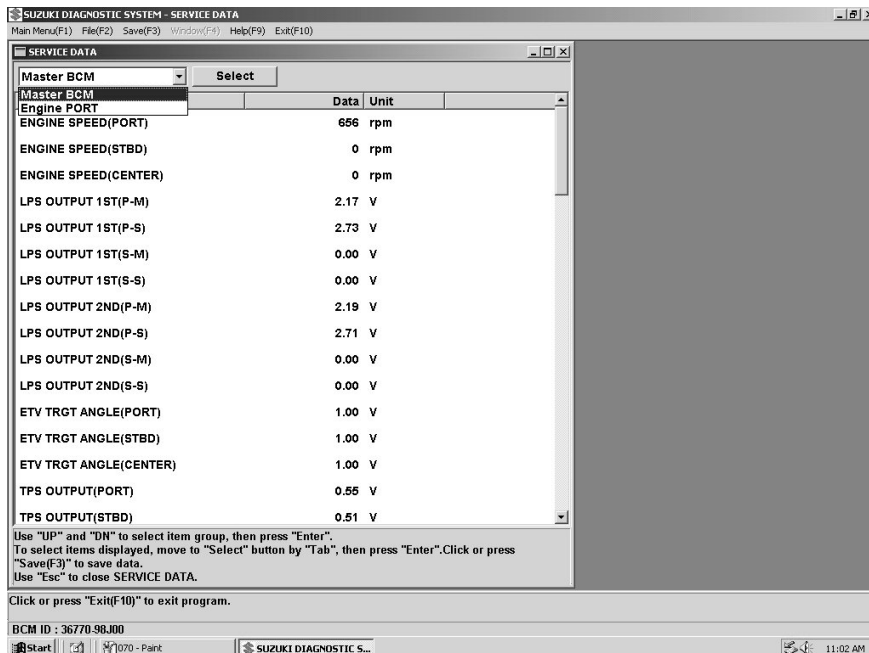

Fig.110
4. You can select service data for the connected outboard motor (ECM) by clicking the ▼ button. (Fig.110)